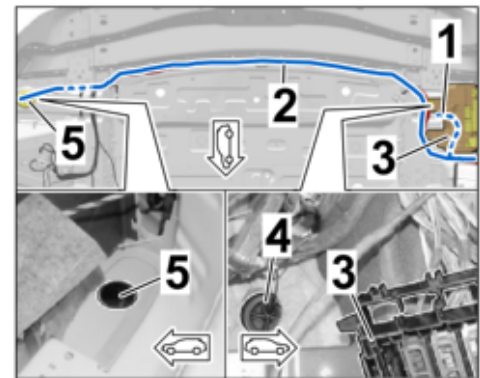

Figure 26
3.2.4 Rear end plate area and grommet/stopper for boot floor (⇒ Figure 26)
- Branch for exhaust flap (left) to grommet/stopper for boot floor, left (beneath fuse box in boot (left) → branch for exhaust flap on the right to rear closing panel → along rear closing panel (⇒ Figure 26 -top-) → grommet/stopper for boot floor, right.